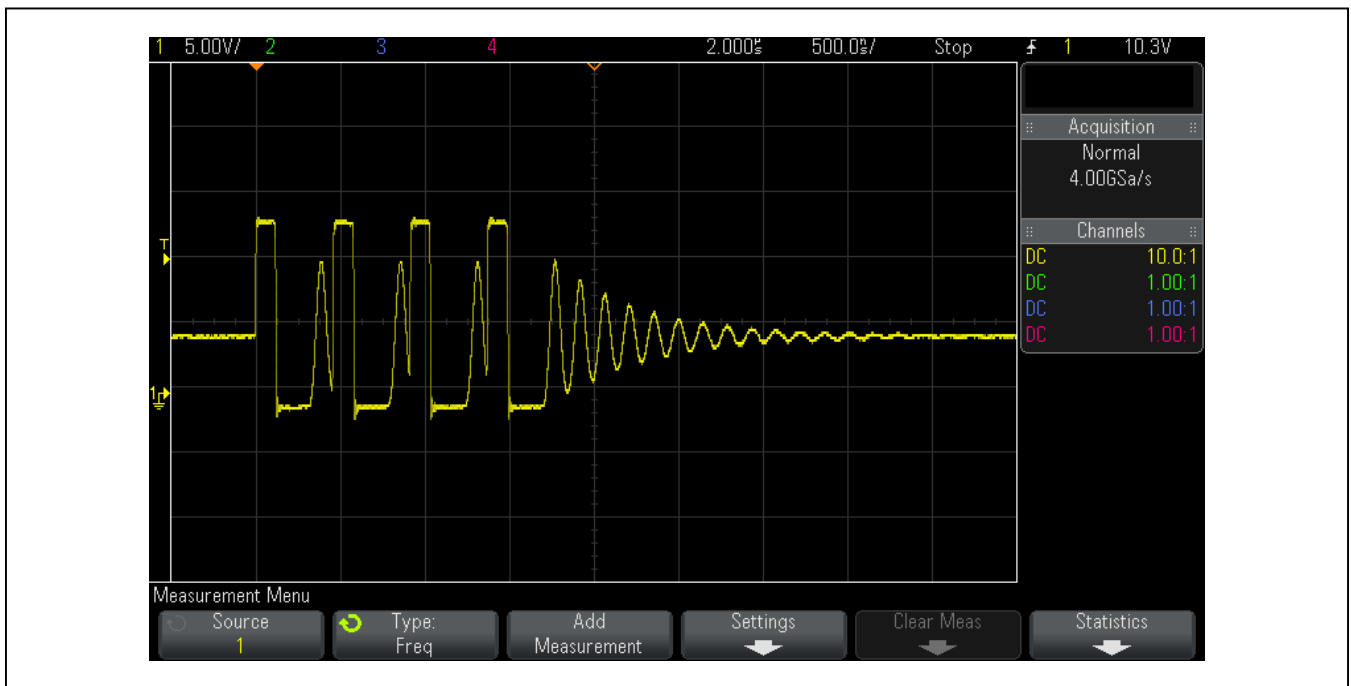

Figure 4. Oscilloscope Measurement for Buck SKIP Mode
- 3) Observe the oscilloscope waveform is similar to Figure 4.